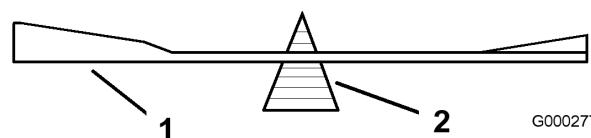

Figure 42
2. Check the balance of the blade by putting it on a blade balancer (Figure 42). If the blade stays in a horizontal position, the blade is balanced and can be used. If the blade is not balanced, file some metal off
the end of the sail area only (Figure 42). Repeat this procedure until the blade is balanced.